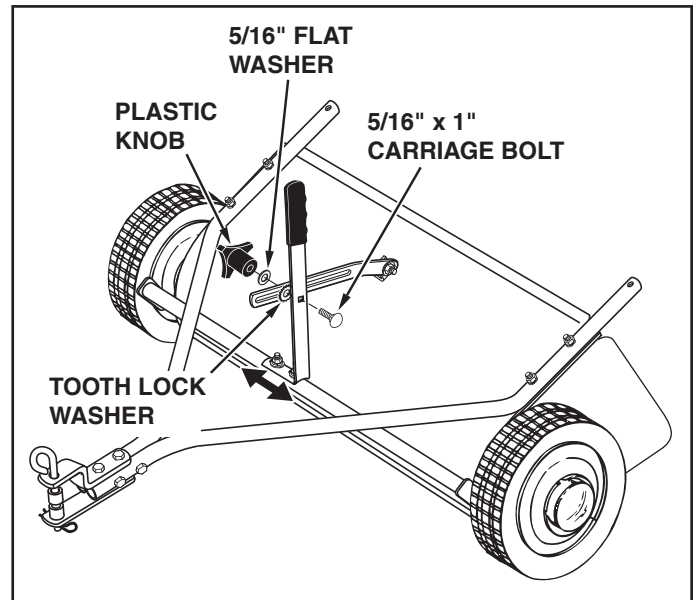

FIGURE 8
- Position the height adjustment handle side to side so that the tooth lock washer can fit between the handle and the height adjustment strap. **Tighten** the nuts securing the height adjustment handle. See figure 8.
- Insert the 5/16" x 1" carriage bolt through the height adjustment handle. Assemble onto the bolt, in order, the 5/16" tooth-lock washer, the height adjustment strap, a 5/16" flat washer and the plastic knob. See figure 8.